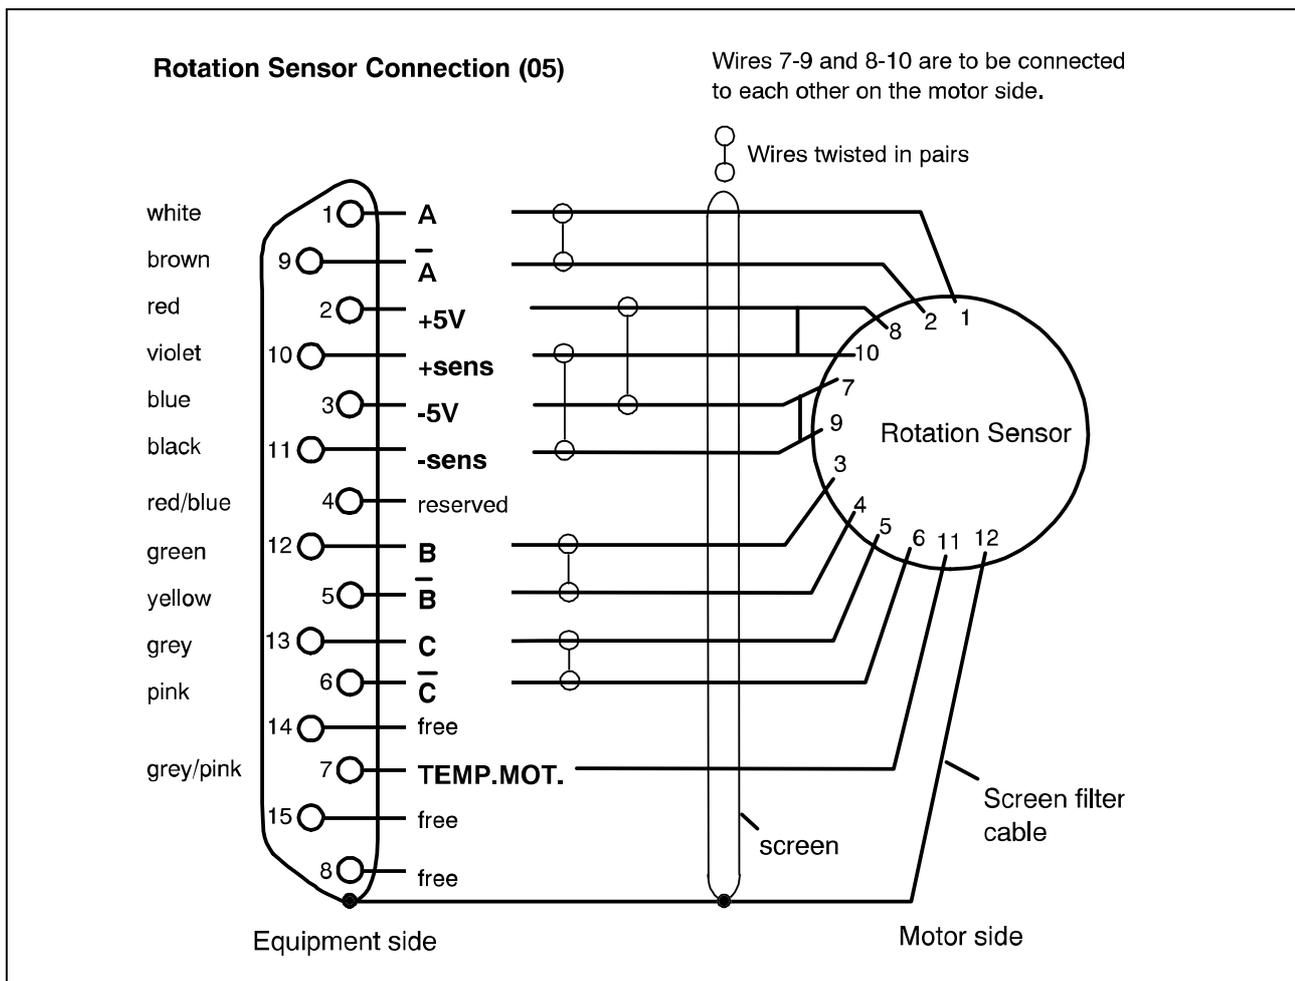

Figure 2-11 Wiring of the Rotation Sensor
Solder the wires of the rotation sensor cable onto the pins of the 15 pins Sub-D-socket, see figure 2-11.
5. Twist the wires of the rotation sensor cable in pairs according to figure 2-11.
6. Make the connection on the side of the motor with 12 pins+PE-circular connector according to figure 2-11. Also attach the screen to the cable entry clamp.